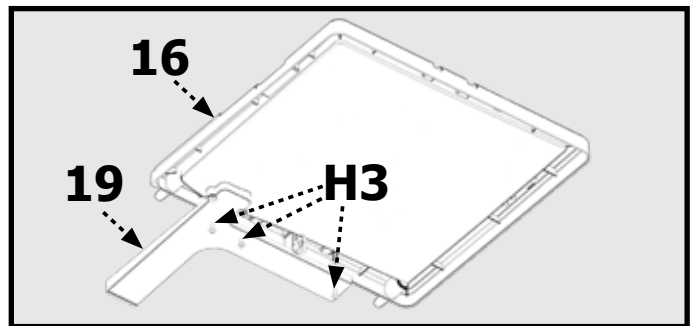

Figure 10
1. Attach the Guided Tray (19) to Splash Tray (16) by using three M4 x 10 Phillips Plastic Self Tapping Screws (H3) as shown in Figure 10.